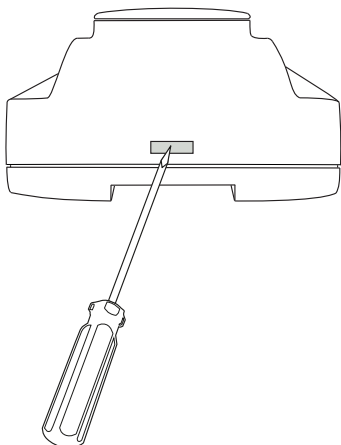

Figure 2-2 Removing the top of the casing.
2. Remove the top of the casing by pressing the two tabs on each side of the casing, see *Figure 2-2*, and then lift up the top of the casing carefully.